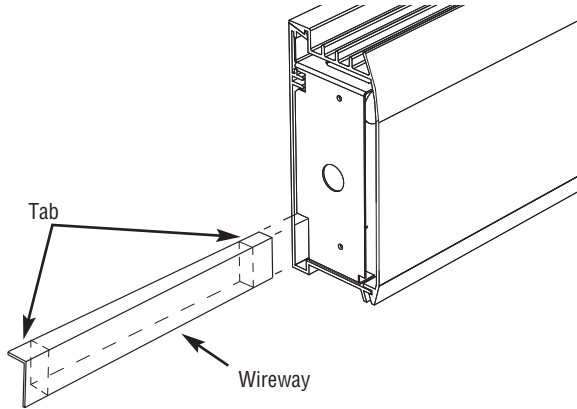

Figure 4
- Both ends of the wireway have two tabs (Figure 4). These tabs are to be inserted in the rectangular opening at the bottom rear of the junction box. If the wireway is too long as supplied, shorten it and cut new tabs in the shortened end.